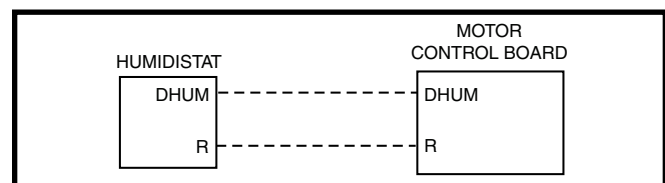

Figure 10. DHUM Wiring Configuration
2. If using a separate humidistat, connect the **DHUM** & **R** terminals on the humidistat to the **DHUM** & **R** terminals on the motor control board of the air handler. In this option, the **DHUM** output of the humidistat must be set to be normally open and closed when there is a call for humidification. See Figure 10.